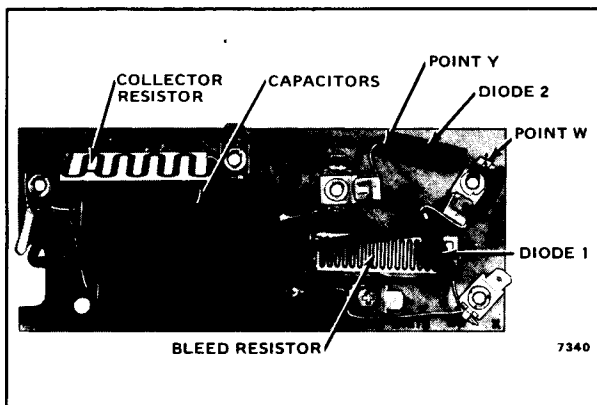

FIG. 21—DISCONNECT DIODES AT POINTS W AND Y.
- If no arcing noise is heard, check for continuity through the collector resistor (Fig. 21), and then check for a failure in the electronic cells. Go on to step 3.